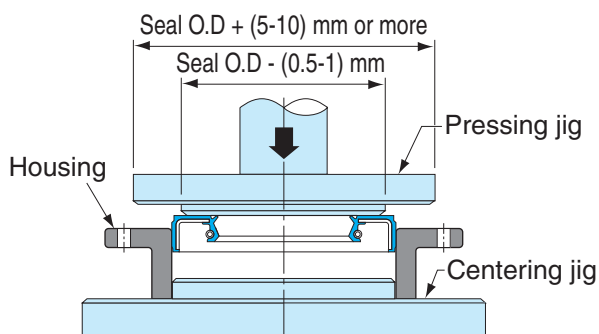
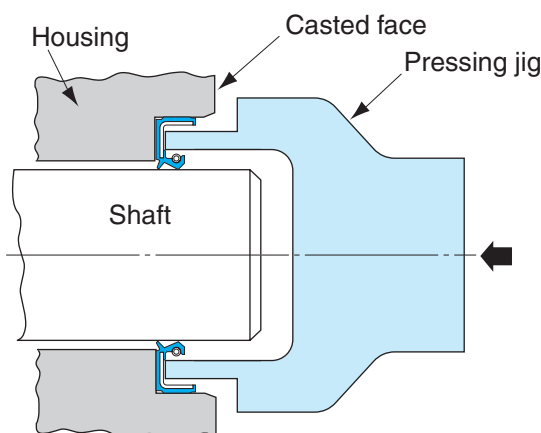

Fig. 1.7.3 Recommended seal press-fitting jigs
Fig. 1.7.4 Seal press-fitting jig for shouldered housing bore in the opposite direction
6) When seal is pressed into housing bore, use pressing jig as shown in Fig. 1.7.3. When press-fitting an oil seal into the housing bore in the opposite direction, use the pressing jig as shown in Figs.1.7.4 and 1.7.5.
Seal press fit at a slant may cause the fit surface to have tear or scuffing and leakage. To ensure good sealing performance, seals need to be mounted at right angles to shafts. For right angled mounting, press the seal down thoroughly to reach the housing shoulder (Fig. 1.7.4).